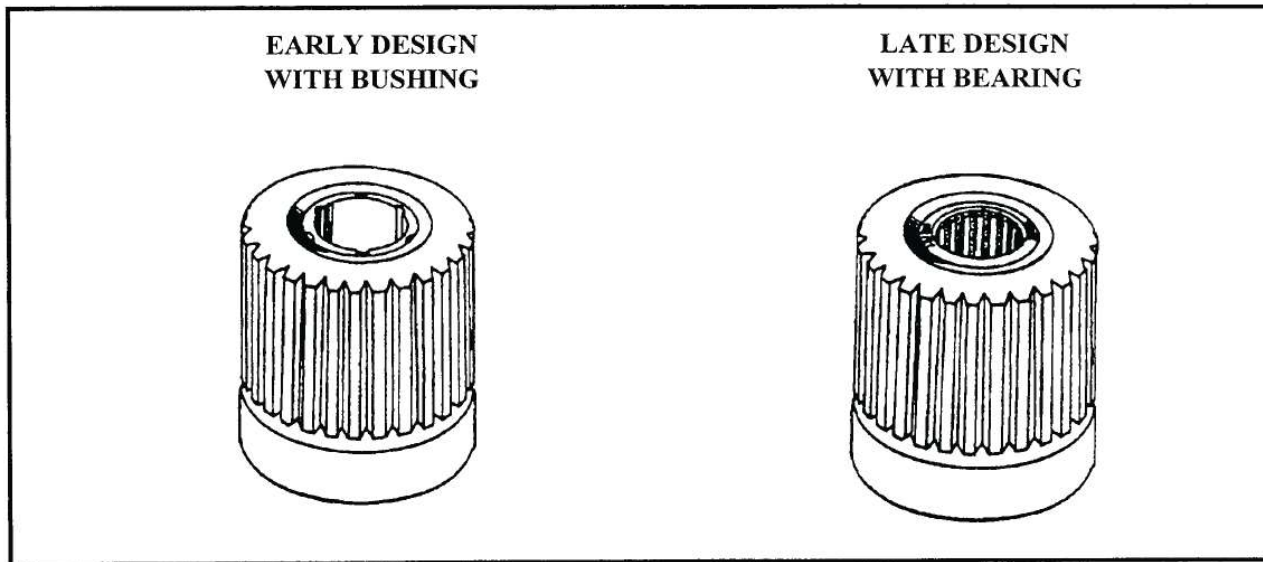

Figure 17
- 4. Bushing in the front end of the output shaft for wear and/or damage. This will support the forward clutch drum and the overdrive center shaft. Replace this bushing on All units during rebuild (See Figure 17).
Inspect and replace as necessary (See Figure 17).